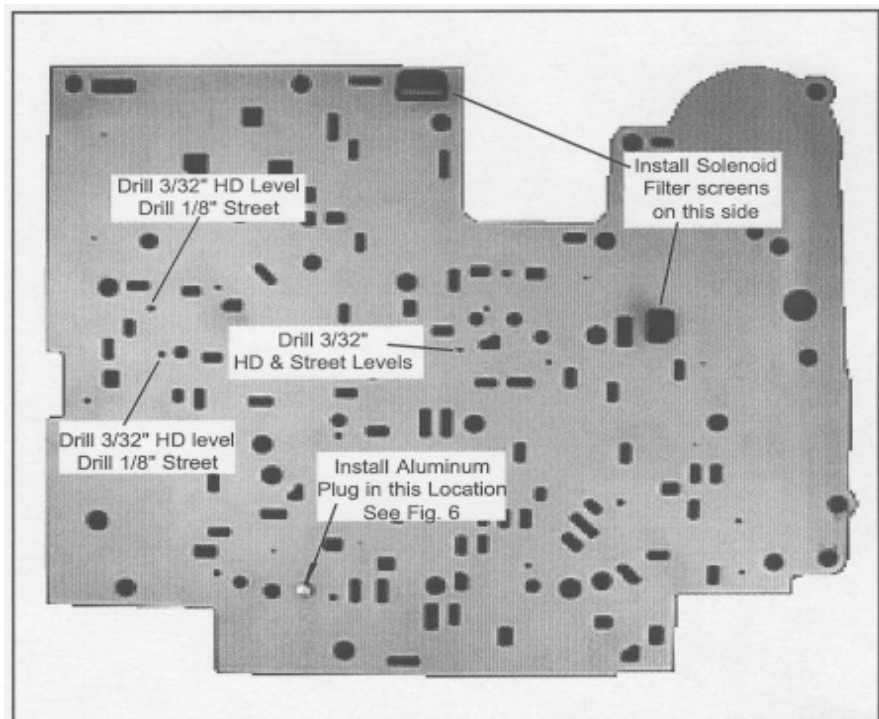

Figure 5. Separator Plate
STEP 8. Carefully remove the snap-in solenoid oil filters from the separator plate. Using the supplied drills, enlarge the holes in your separator plate as shown in (Fig. 5). Before drilling, mark the hole locations and drill size on the separator plate and double check them
STEP 11. Snap new solenoid filters into separator plate (See Fig. 5). Make sure filters are on the correct side of separator plate, Place each new separator plate gasket on the separator plate and check to make sure no holes in the separator plate are covered by the gasket. Use petroleum jelly to stick gaskets to